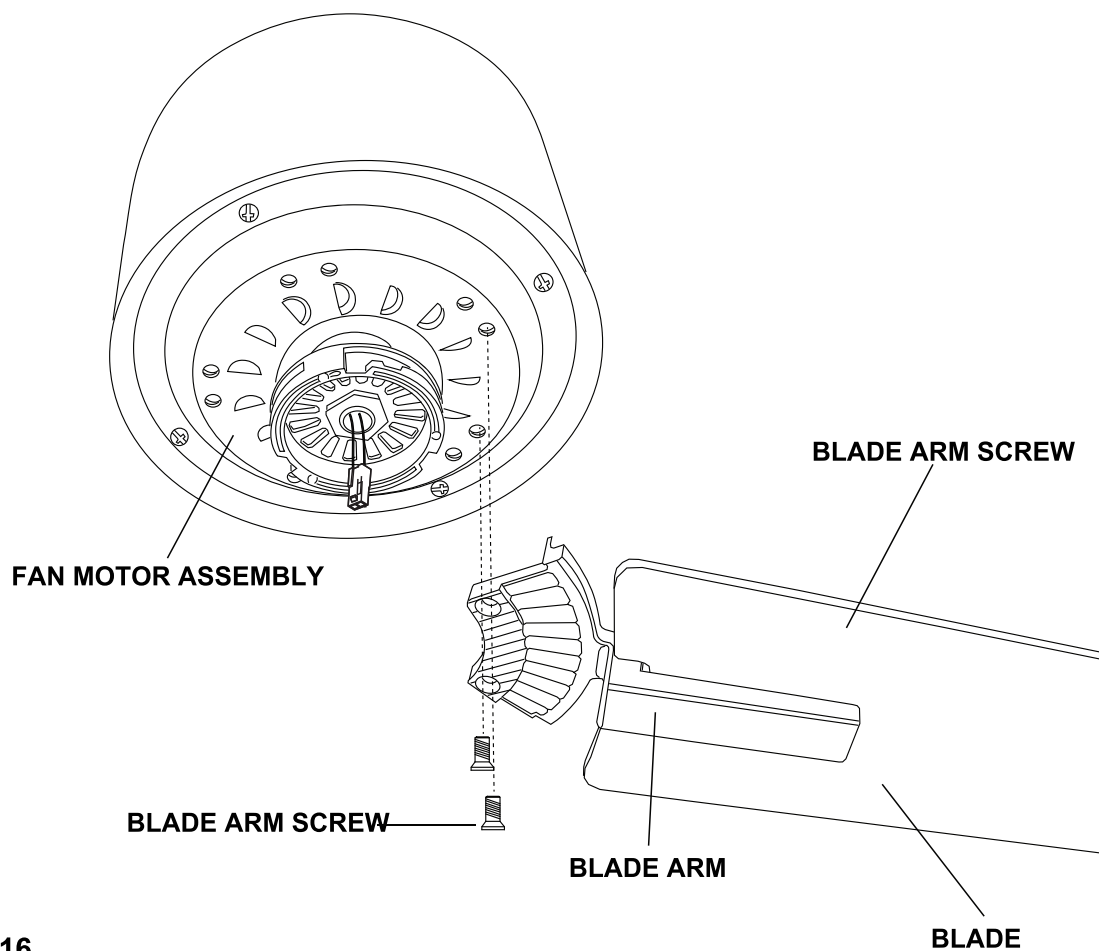

FIG. 16
Step 1. Tighten the blade assembly onto the bottom of fan motor assembly by using the two blade arm screws. Repeat same process for the other blade assemblies. (Fig.16)